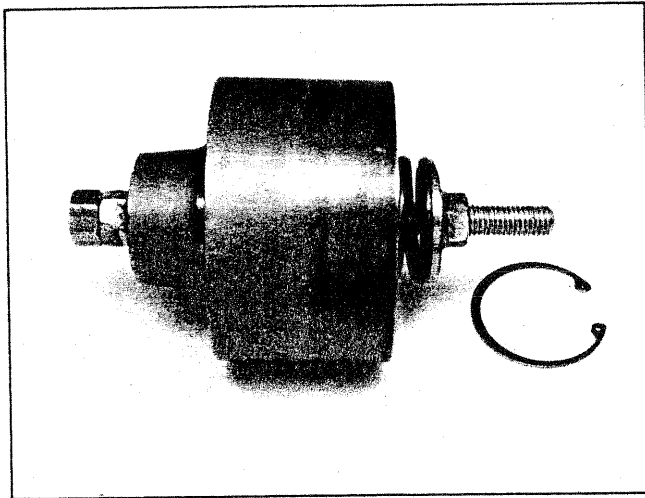

Figure 11.
Spring (50) located within the cylinder block is under a high compression and can cause bodily harm if retaining ring (48) is removed without adequate caution. See Figure 11 for disassembly instructions.
13. Remove shaft key (59) from shaft (60). Remove the front shaft seal arrangement, items (52 through 58). Disassemble "O" rings (55) and shaft seals (56 & 57) from retainer (54). Discard seals and "O" rings. *Do not* remove retaining rings (58) unless they are defective. PVD45 and PVD120 units require a TX-30 Torx tool for removal of screws (52). See special tools.
14. Remove shaft (60) from housing (80). Slide shaft (60), retaining ring (61) and bearing (62) as an assembly out of the flange end of housing. *Do not* remove retaining ring and bearing from shaft unless inspection determines the parts defective.
16. Remove swash plate (67) and pin (68) from yoke (78).